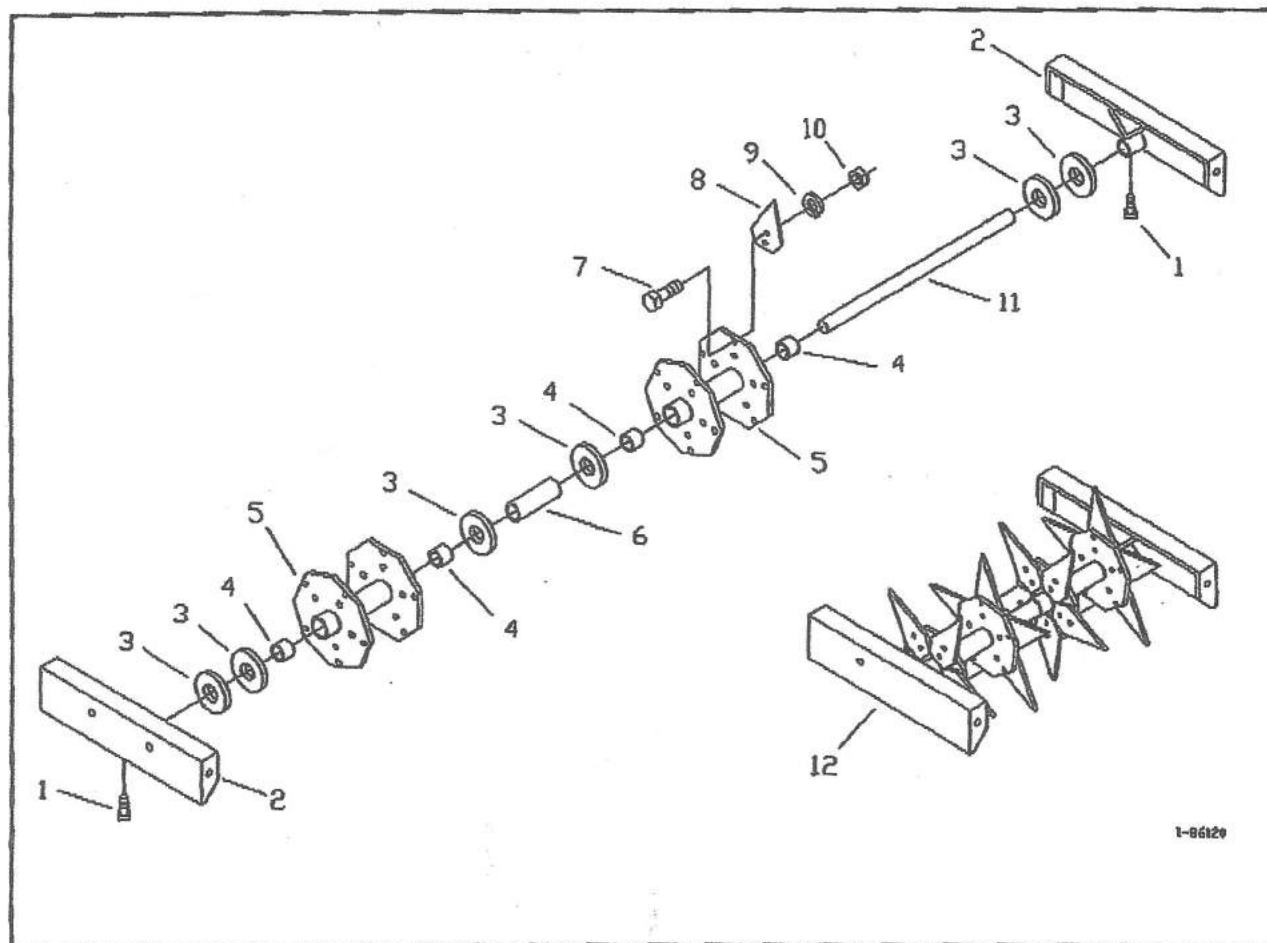

Figure A2 - Economy Aerator Slicing Blades Parts Detail
**NOTE:** Coring spoons are supplied as standard. Slicing blades (Figure A2) may be ordered as an option.